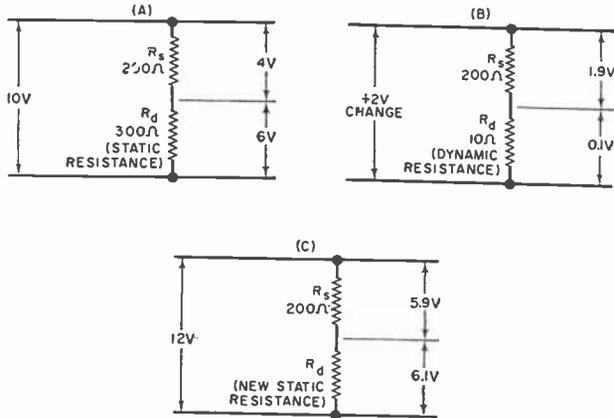

Fig. 4.
Initially, conditions around the circuit are not changing and can be represented as shown in Fig. 4(A). We see the input voltage of 10 volts across two
resistors—4 volts across R_s and 6 volts across R_d , which represents the parallel combination of the zener and the load resistor R_L . Now let's increase E_{IN} by 2 volts. Since the increase is a changing quantity and shifts the diode's operating point, we must analyze its effect on the circuit by means of the dynamic rather than the static resistance. Figure 4(B) shows how the 2-volt change will distribute itself around the circuit.
As soon as conditions settle down and become static again, the operating point will have shifted to a new position and the circuit voltages will now be the sum of the original voltages and those resulting from the 2-volt change. The new distribution will therefore be as shown in Fig. 4(C). Referring back to Fig. 4(B), it is obvious that lowering the dynamic resistance of the zener or increasing the value of R_s will improve the regulating action of the circuit. Increasing R_s , however, will mean a corresponding increase in input voltage to maintain the proper current levels.